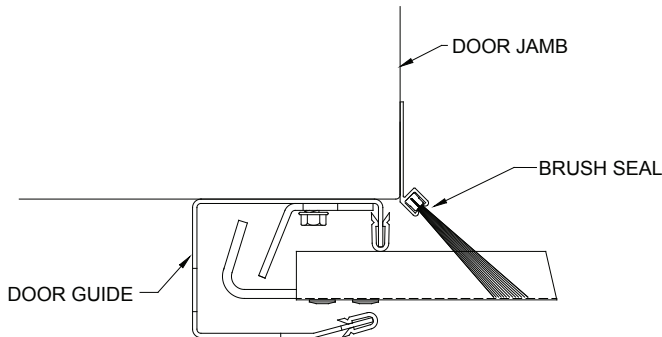

Figure 20.
15.2 Place the door in the closed position before installing the brush seal. Position brush seal so that it just touches the valley portion of the curtain. See Figure 20. Fasten brush seals to jamb every 12 inches with appropriate fasteners.